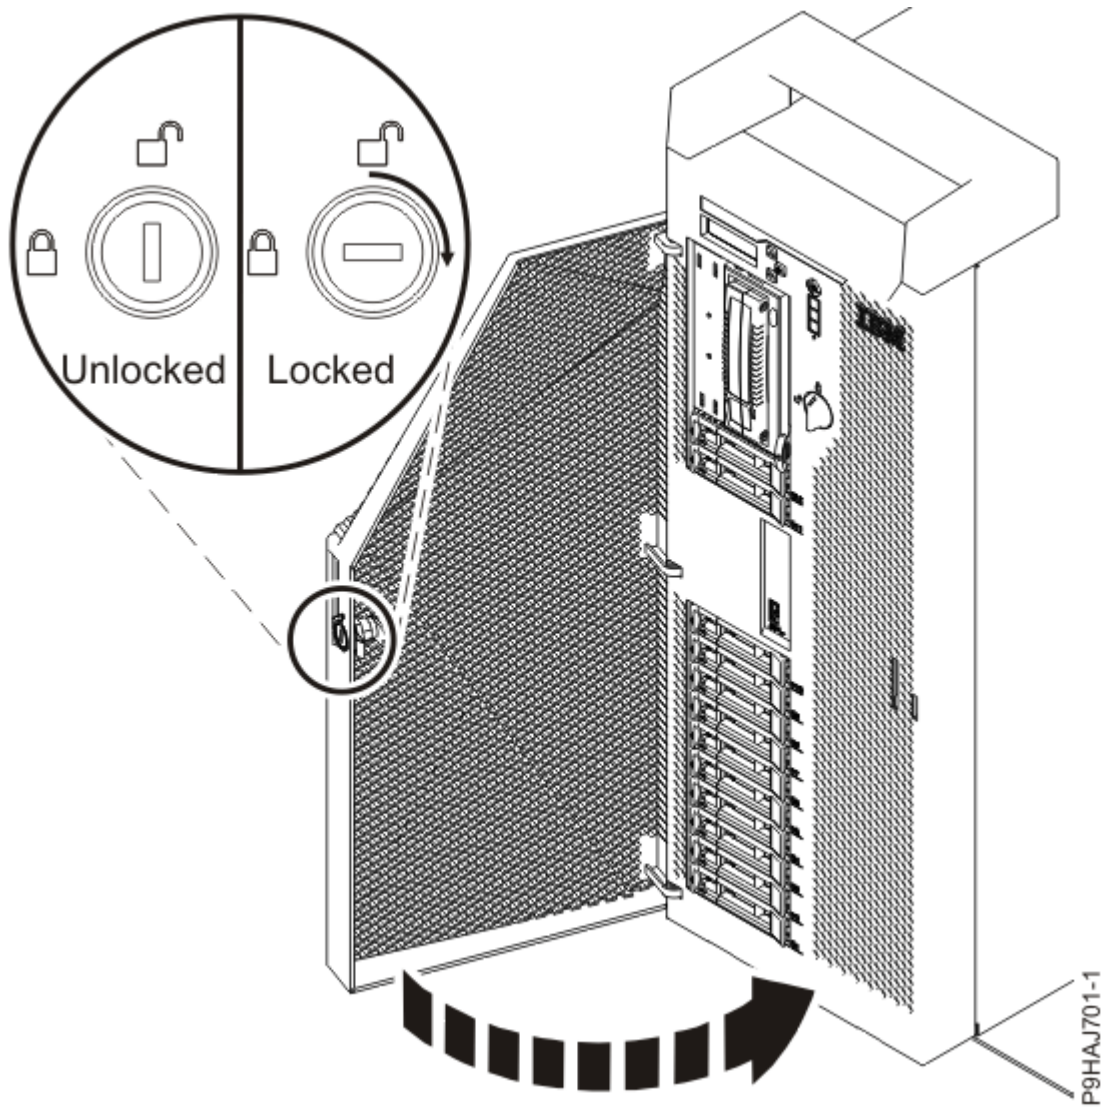

Figure 48. Locking the front door
- e) Close the front door. Insert the front door key into the lock as shown in Figure 48 on page 50. Twist the key to the right (clockwise) to lock the door. Horizontal is locked; vertical is unlocked.